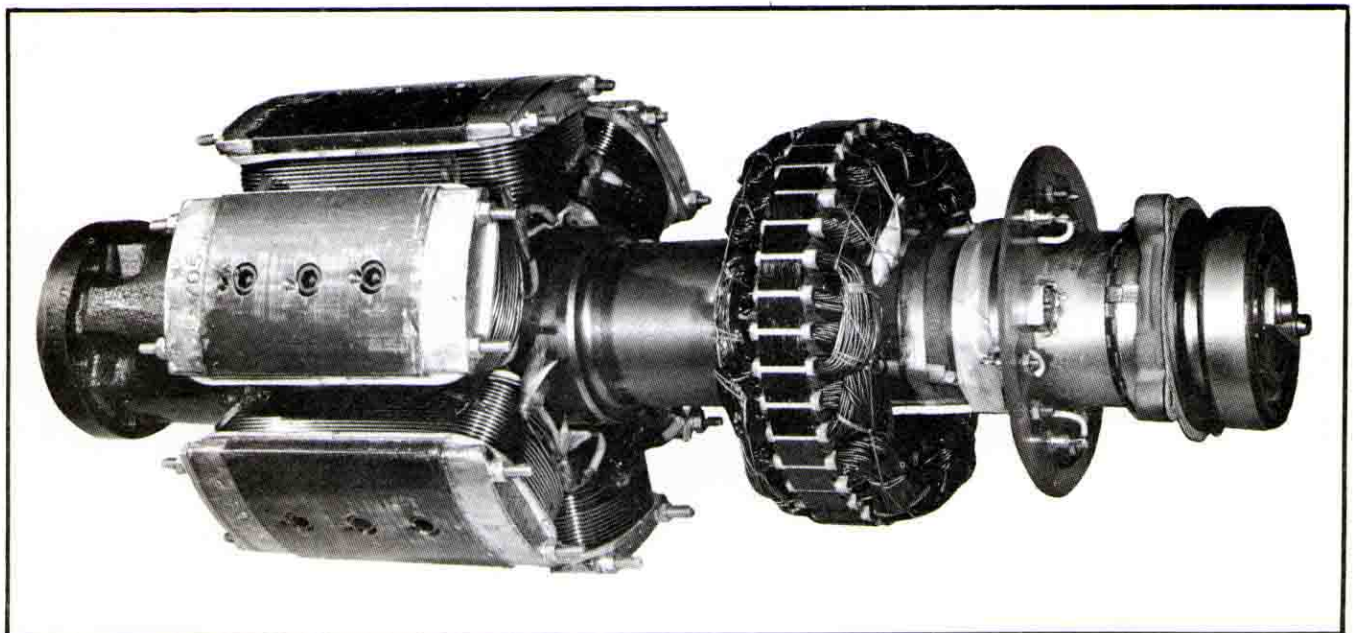

FIGURE 4. ROTATING FIELD ASSEMBLY, INCLUDING EXCITER ARMATURE, RECTIFIER PLATE ASSEMBLY AND BALL BEARING
Rotating Field (Rotor) (See Figure 4): The rotating field (1) of the alternator consists of six individual coil and pole piece assemblies (3) bolted to the shaft. These coils are connected in series, and leads are brought out to the rectifier assembly (22). The rotating coils are energized by the rectified exciter output current.
Exciter Armature (See Figure 4): The exciter armature (12) is constructed of a conventional stackup of slotted steel laminations containing the coils, and keyed to the generator shaft. A slotted sleeve, welded to the exciter armature, separates it from the rotating rectifier assembly.